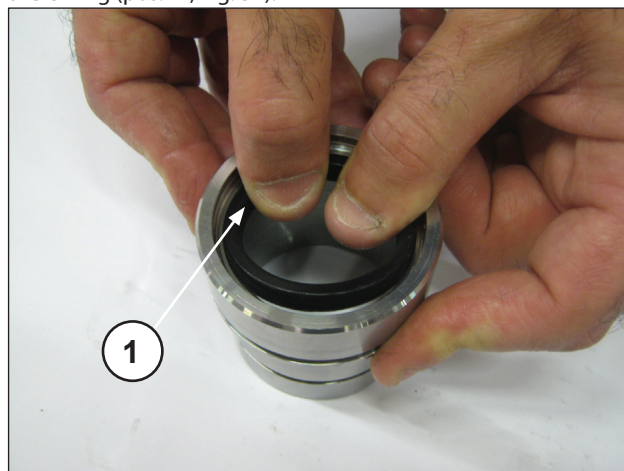
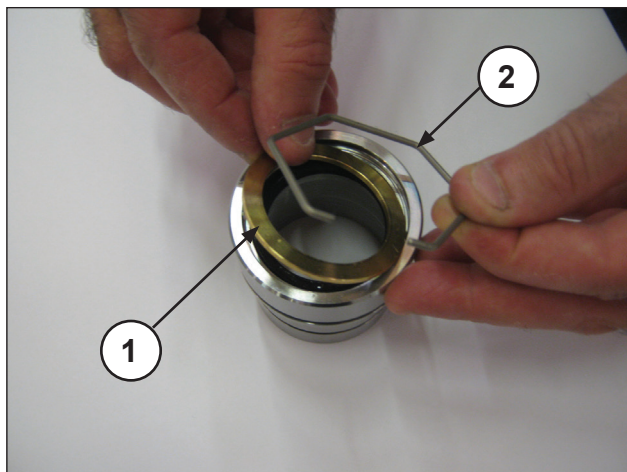
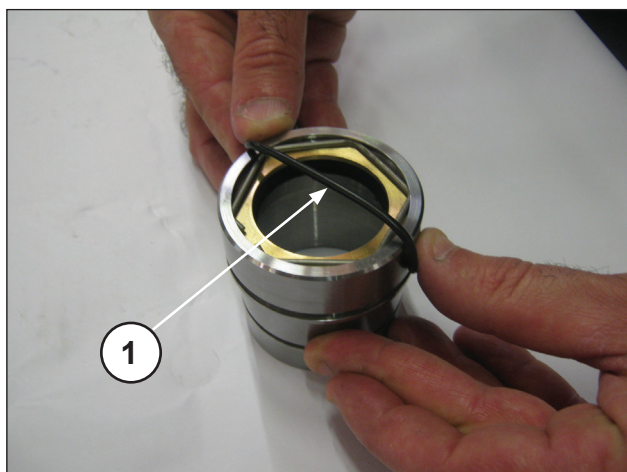

Fig. 52
Fig. 53
Fig. 54
Insert the low pressure seal in the packing support (pos. ①, Fig. 52) paying attention to the mounting direction which requires that the sealing lip be set forward (towards the head). Then insert the seal ring, retaining ring (pos. ①②, Fig. 53) and the O-ring (pos. ①, Fig. 54).